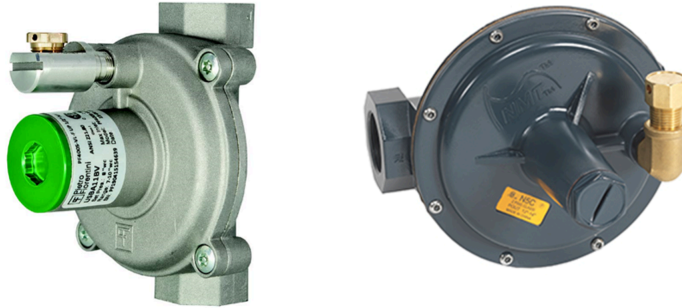

Figure 19. External vent limiter adapters
Other manufactures may have a 90 degree external vent limiter adapter available for vertical or rolled regulator orientations (Figure 19). Installers must use these manufactured certified adapters only; it is not acceptable to install you own pipe and or fittings between the regulator and the vent limiter.
- Figure 19. “External vent limiter adapters”.